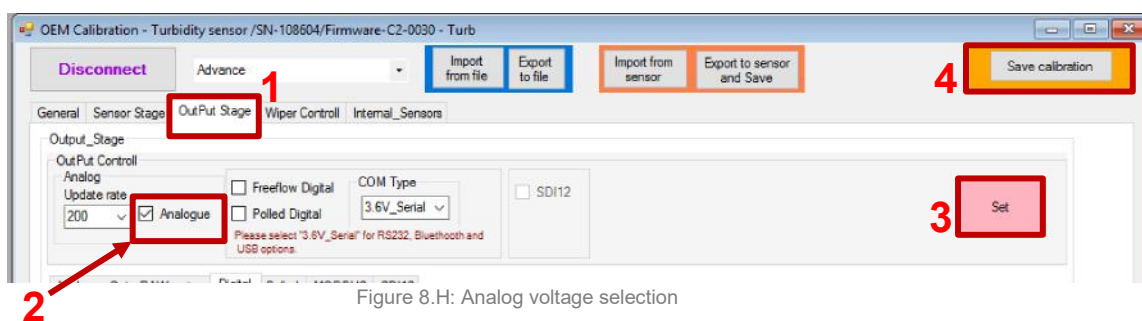

Figure 8.H: Analog voltage selection
- Select "OutPut Stage" option (Figure 8.H: # 1).